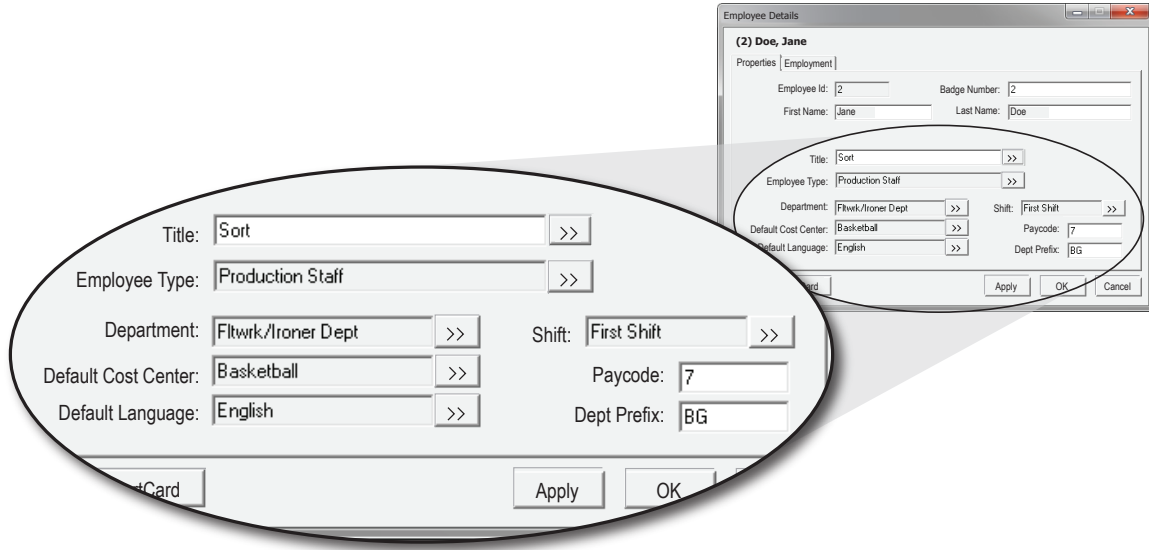
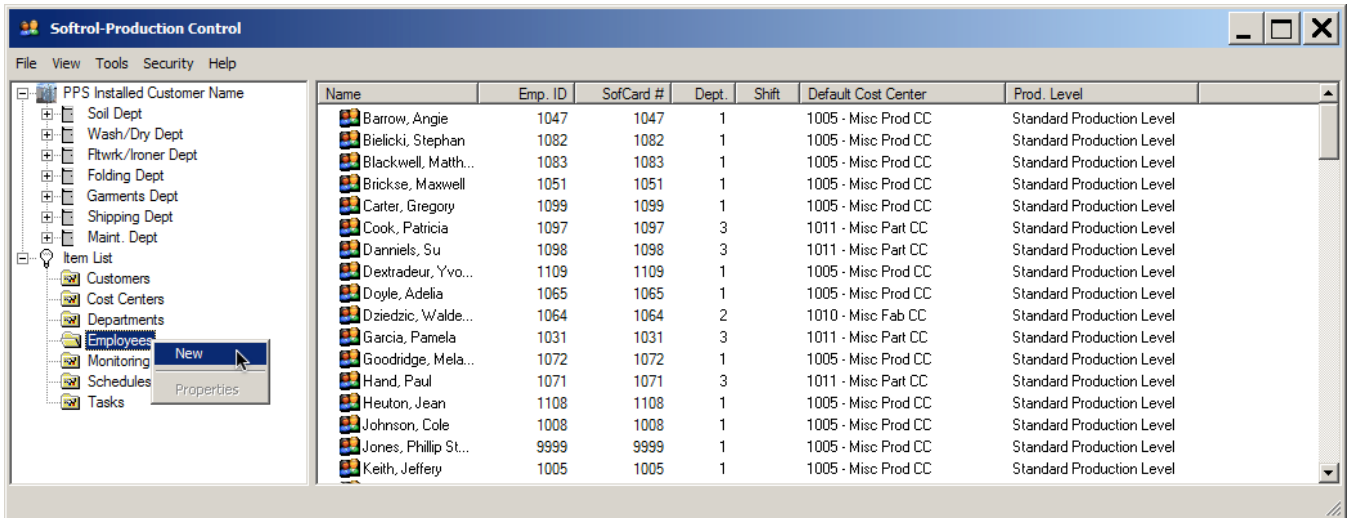
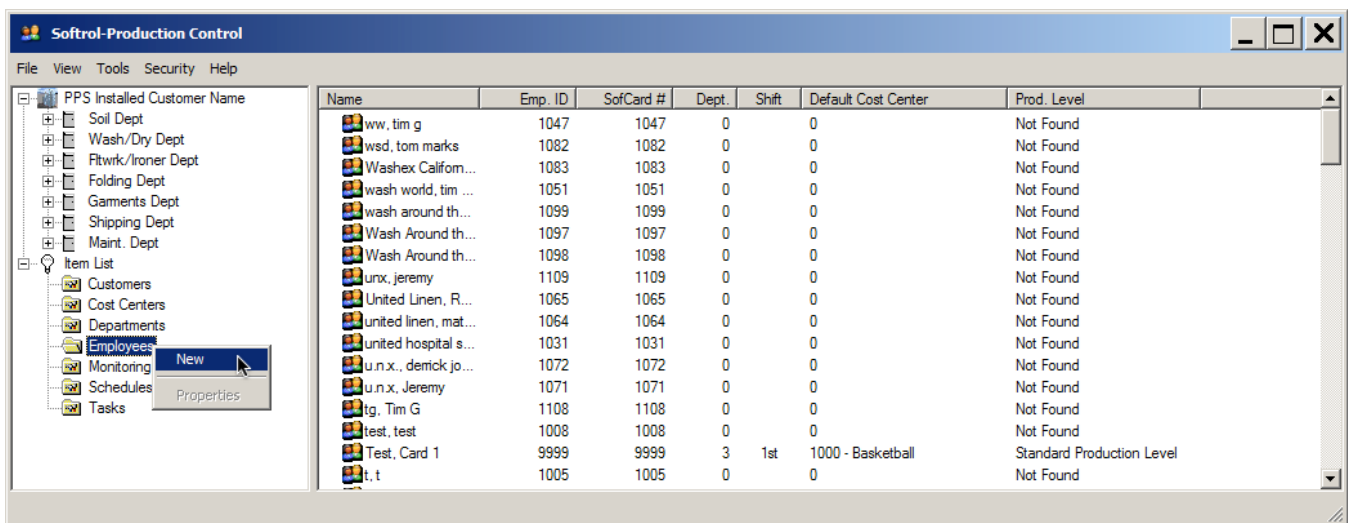

Figure 29. Employee Details Dialog.
Figure 33. Setup: New Employee.
Figure 34. Setup: New Employee.
6. Click the buttons **>>** next to the remaining fields to set their values (see Figure 29).
2. Right-click and select **New** (see Figure 33) or double-click an existing employee if you would like to change the employee's title. This opens the *Employee Details* dialog (see Figure 29 on page 22).
2. Right-click and select **New** (see Figure 34), or double-click an existing employee to change the employee's type. This opens the *Employee Details* dialog (see Figure 29 on page 22).